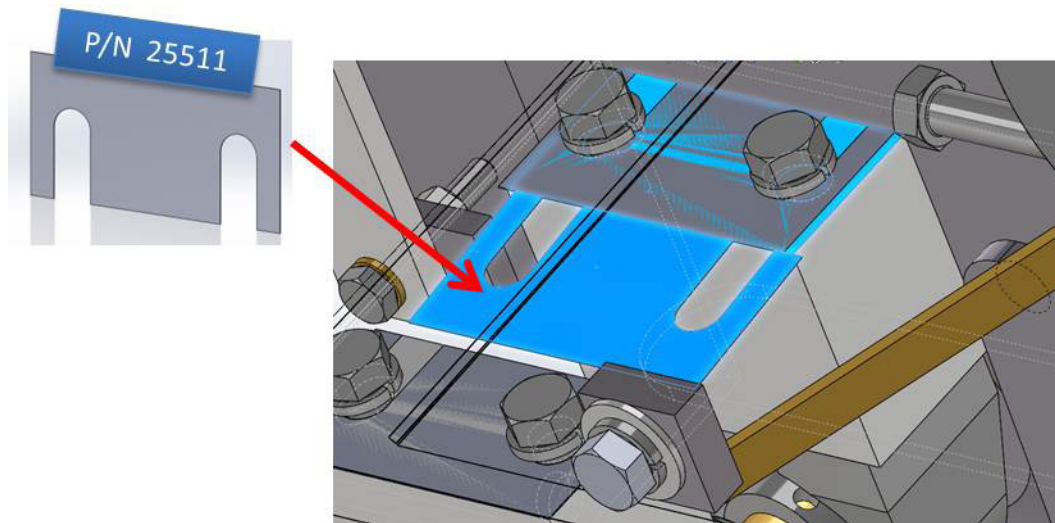

Figure 11. Adding Shim Stock
12. Add Shim stock between frame and bearing spacer block accordingly to align flange (Figure 11).